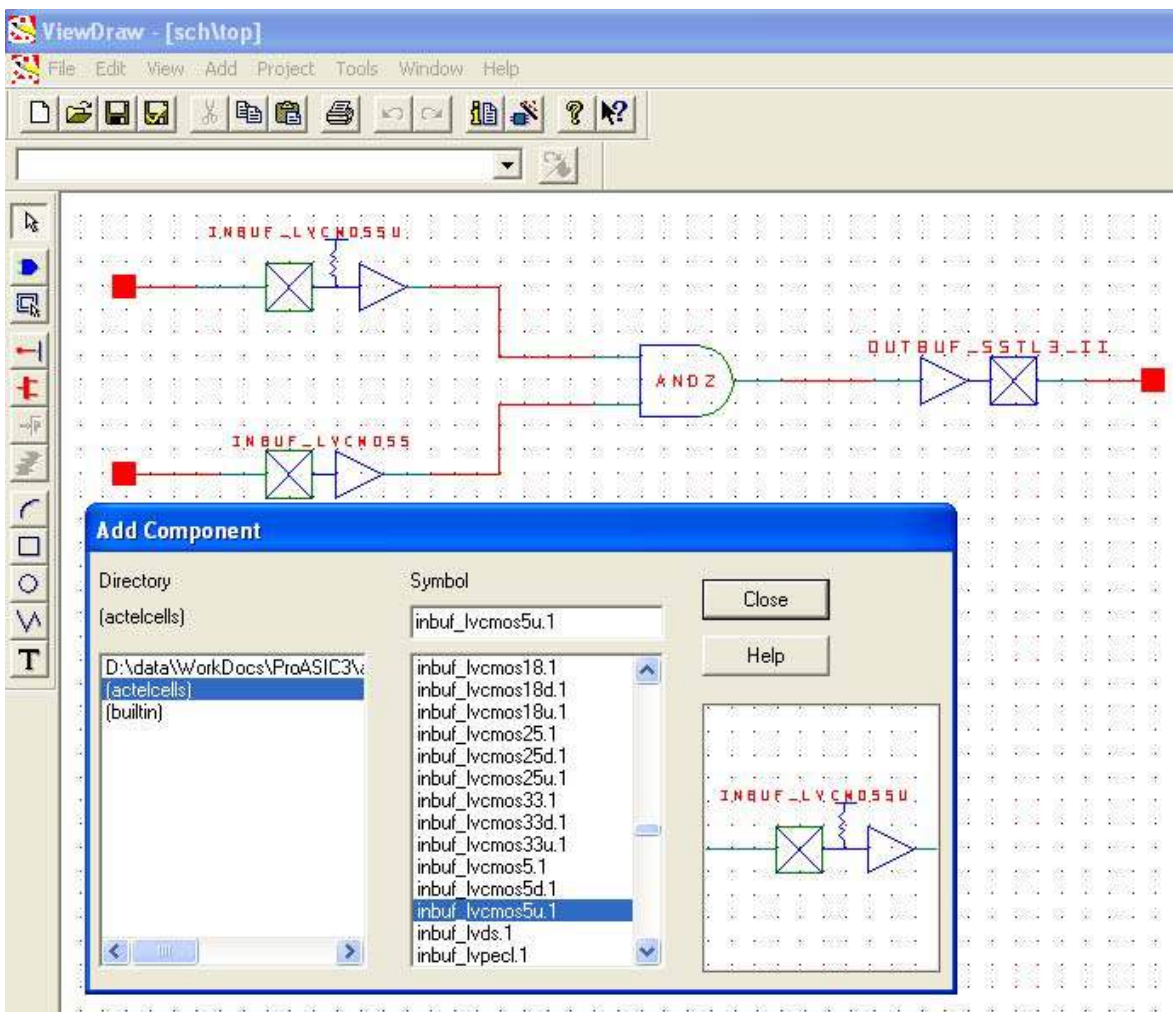

Figure 9-5 • I/O Buffer Schematic Cell Usage
5. Enter a name for the macro. Click **OK**. The core will be generated and saved to the appropriate location within the project files (Figure 9-5 on page 257).
Libero SoC software includes the ViewDraw schematic entry tool. Using ViewDraw, the user can insert any supported I/O buffer cell in the top-level schematic. Figure 9-5 shows a top-level schematic with different I/O buffer cells. When synthesized, the netlist will contain the same I/O macro.